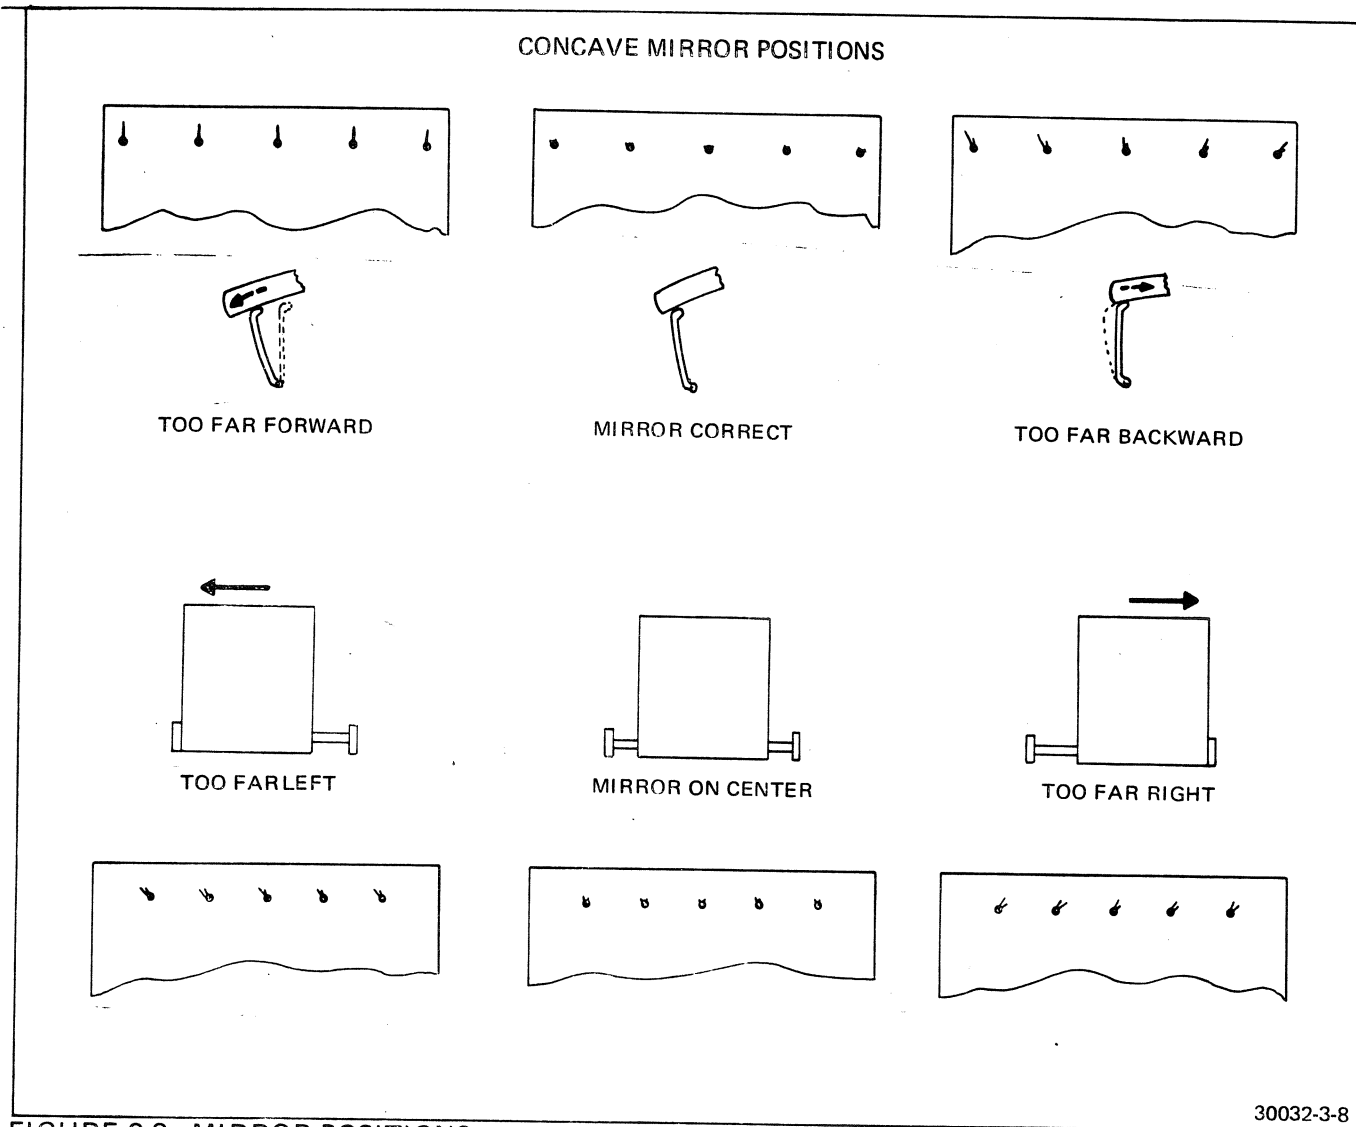

FIGURE 3-8 MIRROR POSITIONS
4. With the eye centered, the 'rabbit ears' should be minimized. Now change the adjustment of the concave mirror either by altering the screw setting or pressing down on the viewfinder cap, (the latter, of course, permits adjustment in one direction only). As the adjustments are made, pay particular attention to the top rows of lights. If the top of the mirror is too far backwards (towards you), the lights appear to be vertical lines; with little or no 'rabbit ears'. If it is too far forward, the length of the 'rabbit ears' increases (Figure 3-8). While looking for these effects, it is important that you allow